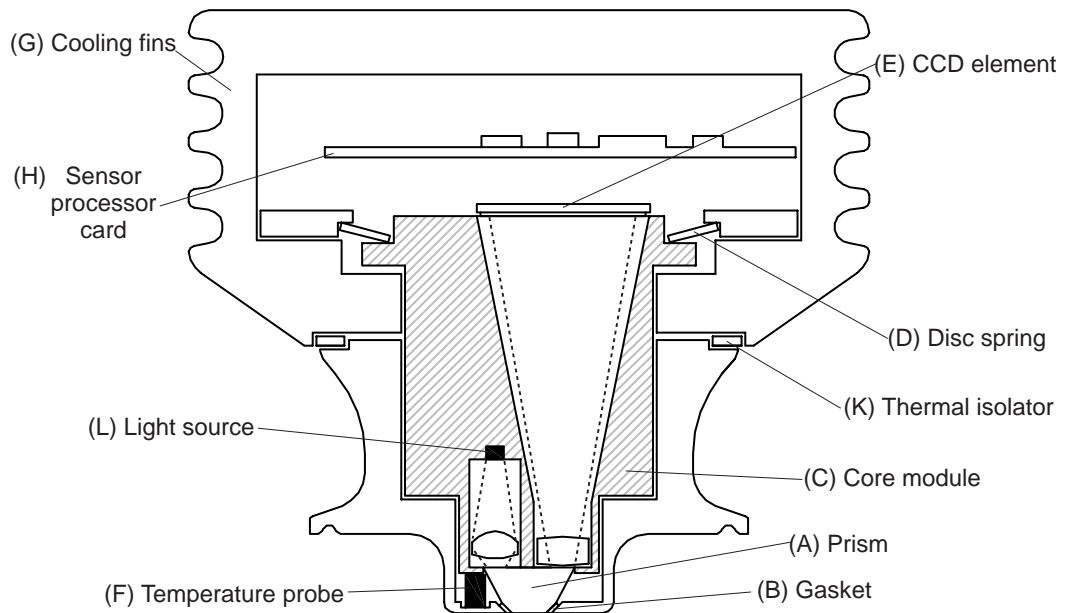

Figure 2.1 PR-23 sensor structure
Figure 2.1 below shows a cutaway picture of a PR-23 inline refractometer sensor. The measurement prism (A) is flush mounted to the surface of the probe tip. The prism (A) and all the other optical components are fixed to the solid core module (C), which is springloaded (D) against the prism gasket (B). The light source (L) is a yellow Light Emitting Diode (LED), and the receiver is a CCD element (E). The electronics is protected against process heat by a thermal isolator (K) and cooling fins (G). The sensor processor card (H) receives the raw data from the CCD element (E) and the Pt-1000 process temperature probe (F), then calculates the refractive index n_D and the process temperature T . This information is transmitted to the Indicating transmitter.